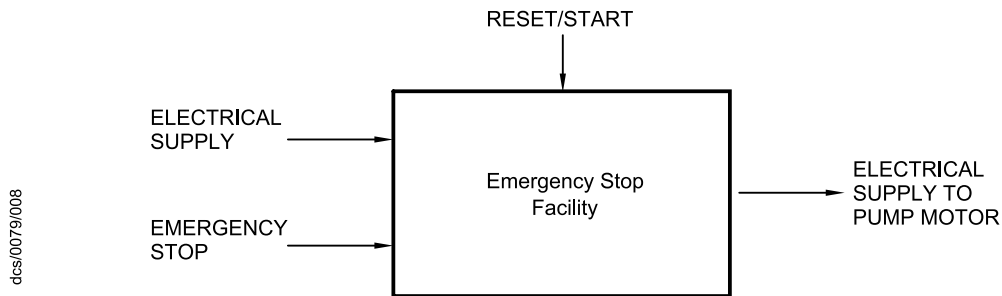

Figure 11 - Schematic diagram of emergency stop facility
Refer to Figure 11. The pump must be connected to an emergency stop facility. The operation of the emergency stop function should immediately disconnect power from the pump when the emergency stop control is operated. Returning the emergency stop control to its normal operating position should not result in power being re-applied to the pump; a separate start or reset control should be used for this.
2. Undo the cooling-water inlet fitting using a 19 mm (3/4") and a 22 mm (7/8") spanner (refer to Figure 11).